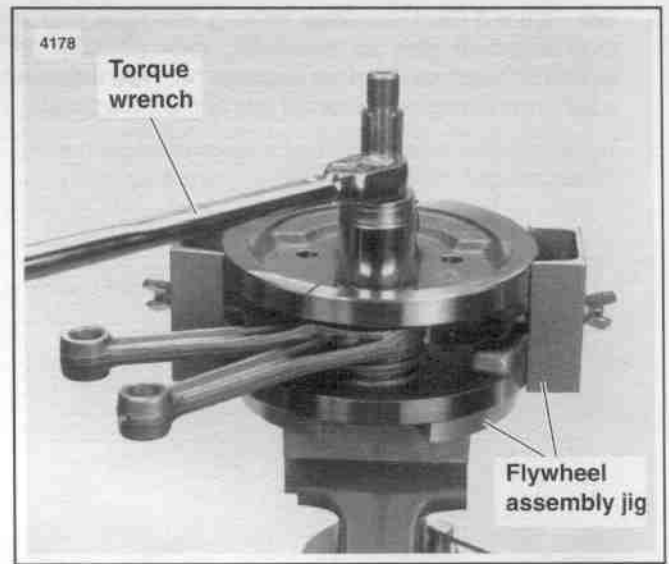

Figure 3-72. Tightening Crankpin Nut
- See Figure 3-72. Place flywheel assembly in FLYWHEEL ASSEMBLY JIG, Part No. 34813. Apply Perma-Loc HM 161 Retaining Compound to the threads and face of the nut. Tighten the crankpin nut to 180-210 ft-lbs (244-285 Nm).
6. See Figure 3-72. When wheels are true, place flywheel in FLYWHEEL ASSEMBLY JIG, Part No. HD-34813 and using a torque wrench, tighten crank pin nuts to 180-210 ft-lbs (244-285 Nm) final torque. Recheck for truing and runout, and if either is not within specification, repeat truing procedure.